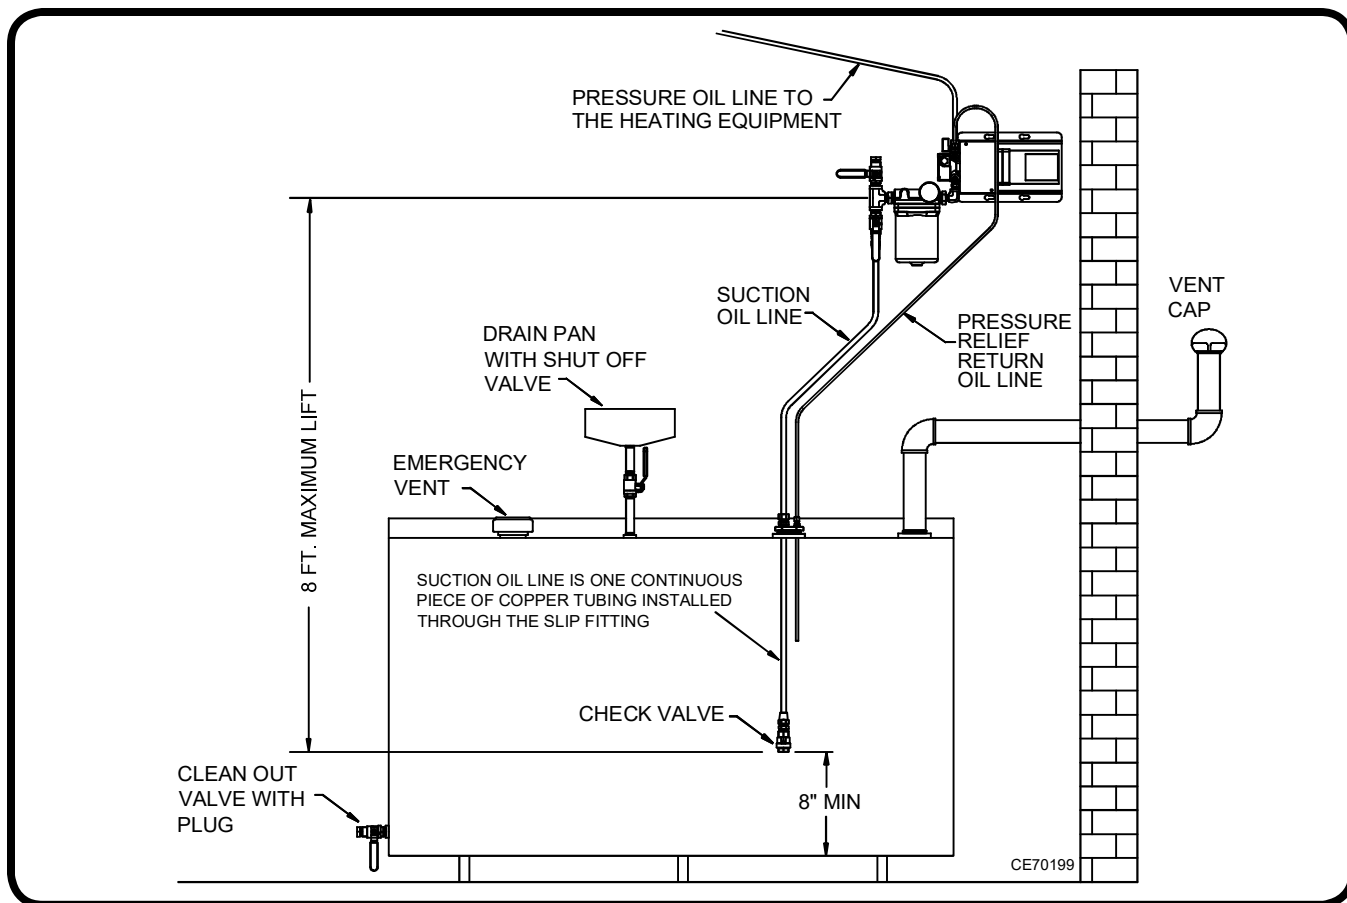

Figure 12: Typical Oil Storage Tank Installation
- (1) Refer to Figure 12 for a typical oil storage tank setup.
- (2) The tank must be installed according to all NFPA requirements and State and Local codes.
- (3) An inside tank is recommended.
- (4) Locate the tank in a position that will allow the oil pump to be mounted as close as possible
- (5) Only use a tank with a drain on the bottom. Over time, dirt and sludge will naturally accumulate on the bottom of the tank and there must be a way of removing this unwanted material.
- (6) Some state and local codes require the tank to be vented to the outside.
- (7) Educate all personnel what substances are allowed to be added to the used oil supply and apply the provided tank warning label near the fill location.